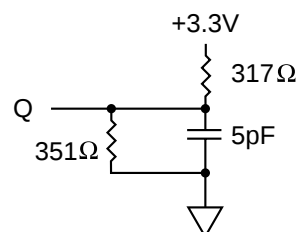

Figure 2
4. The load used for V_{OH}, V_{OL} testing is shown in Figure 2. AC load current is higher than the shown DC values. AC I/O curves are available upon request.
4. Output loading is specified with $C_L = 5\text{pF}$ as shown in Figure 2.